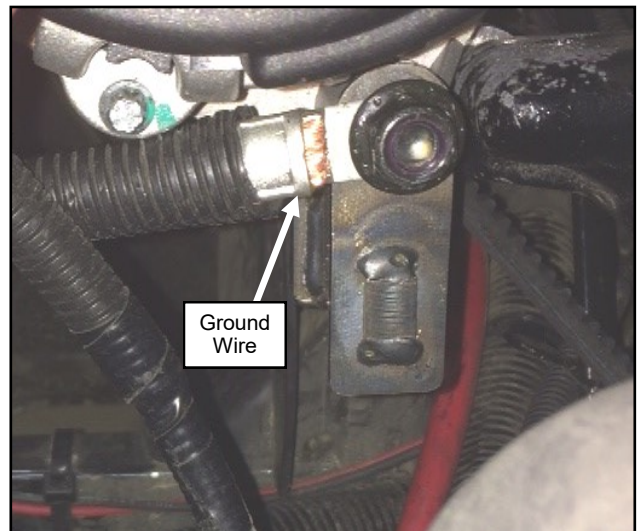

Fig. 4.1 (Install Ground Wire)
- 4.1** Install Ground Wire from the A/C Unit power supply harness to the back of lower alternator mounting screw as shown in fig 4.1. Tension the V-belt and tighten the 3/8" screws that secure the alternator to the following torque; 3/8" Flange Bolt 38-46 ft-lb (52-62 Nm) and 3/8" BHCS 35-42 ft-lb (48-57 Nm).